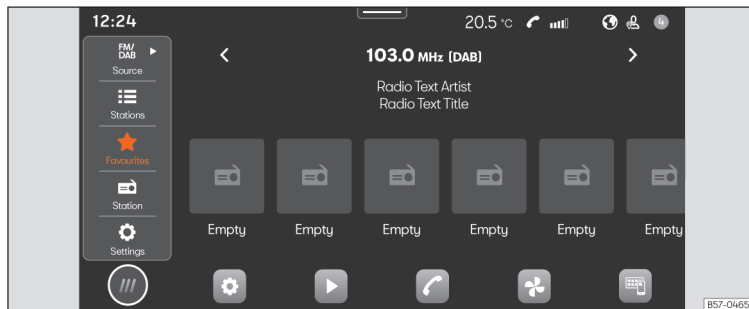

Fig. 162 Schematic representation: Radio view.
- Press **HOME** > >>> **Fig. 162**.